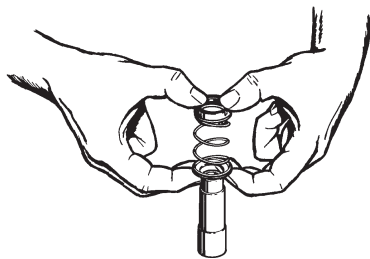

Figure 4-3
8. Remove the rotating element from the sleeve. Refer to Figure 4-3. The element normally adheres tightly to the sleeve and some force may be necessary to remove it. This is common and if care is taken, the element can be reassembled and reused. **It is recommended that a new rotating element be used for reassembly.** DO NOT attempt to